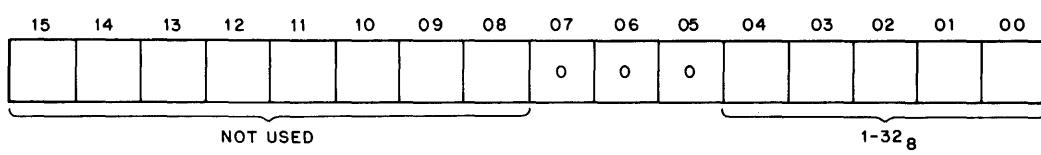

Figure 3-3 RXSA Format (RX11)
**3.2.2.2 RXSA – RX Sector Address (Figure 3-3)** – This register is loaded to indicate on which of the  $32_8$  sectors a given function is to operate. It can be addressed only under the protocol of the function in progress (Paragraph 3.3). Bits 8 through 15 are unused and are ignored by the control.